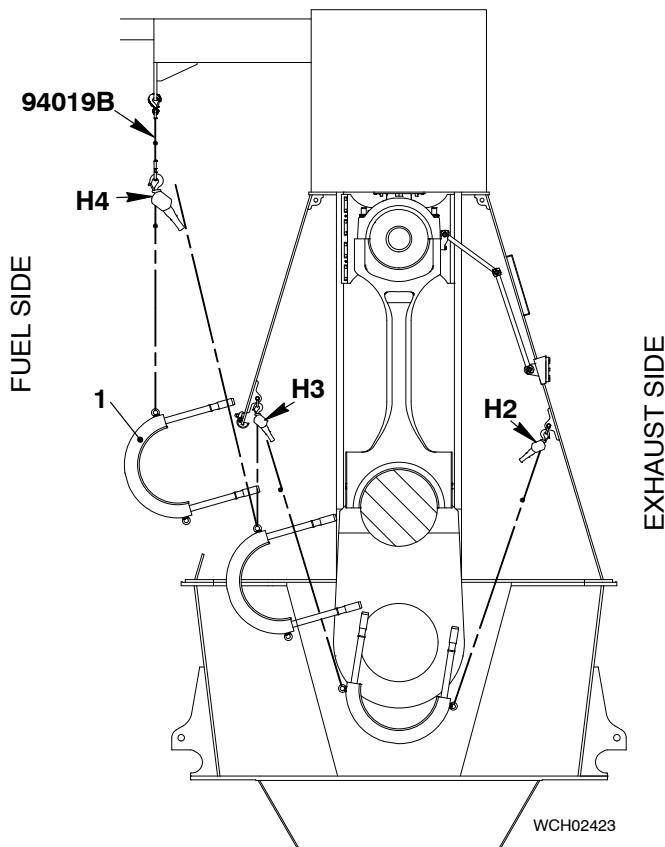

Fig. 12
- 1) Attach the chain (94019B, Fig. 12) to the gallery.
- 2) Attach the manual ratchet (H4) to the chain (94019B) and the eye bolt on the bearing cover (1).
- 3) Move the bearing cover (1) into the crankcase.
- 4) Attach the manual ratchets (H2, H3) to the column and the bearing cover (1).
- 6) Operate the manual ratchets (H2 H3) to lift the bearing cover (1) into position.